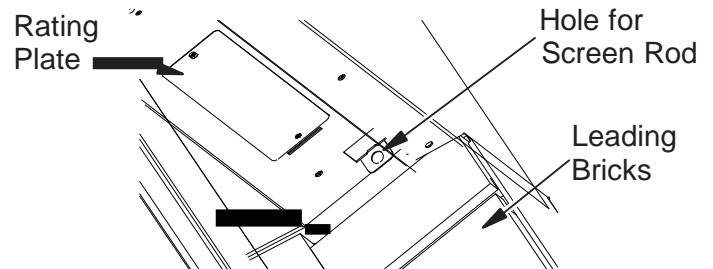

Figure 15 - Installing Fireplace Screen
2. Insert the round end screen rod into hole on the left and right side of smoke shelf (Figure 15).